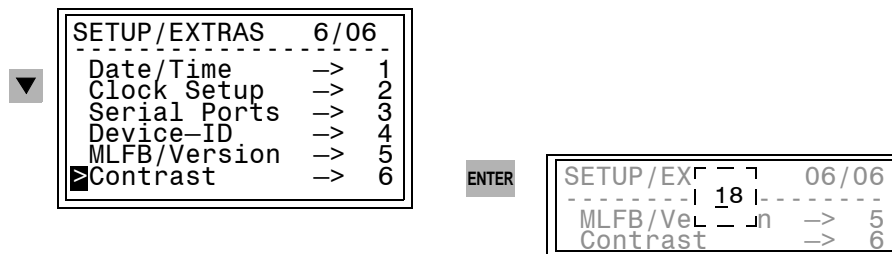

Figure 3-3 Operating sub-menu for adjusting the display contrast
- ❑ Using the **▼** key, select the menu item **Setup/Extras** and switch to the selection **SETUP/EXTRAS** using the **▶** key. See Figure 3-3.